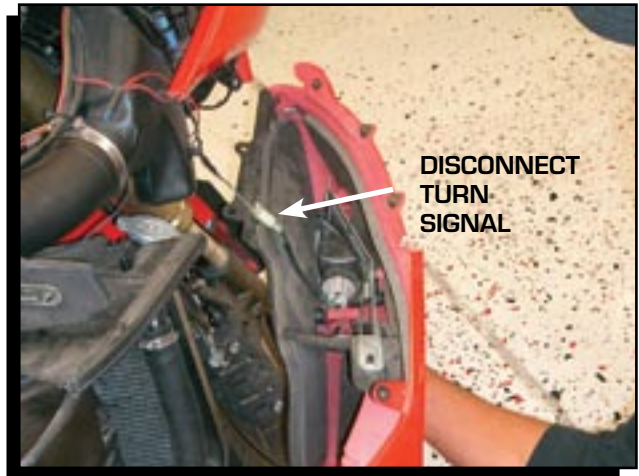

Figure 6 Disconnecting the Turn Signal.
6. Before removing the side panels, disconnect the turn signal connector (Figure 6). Slide the panels down to remove.